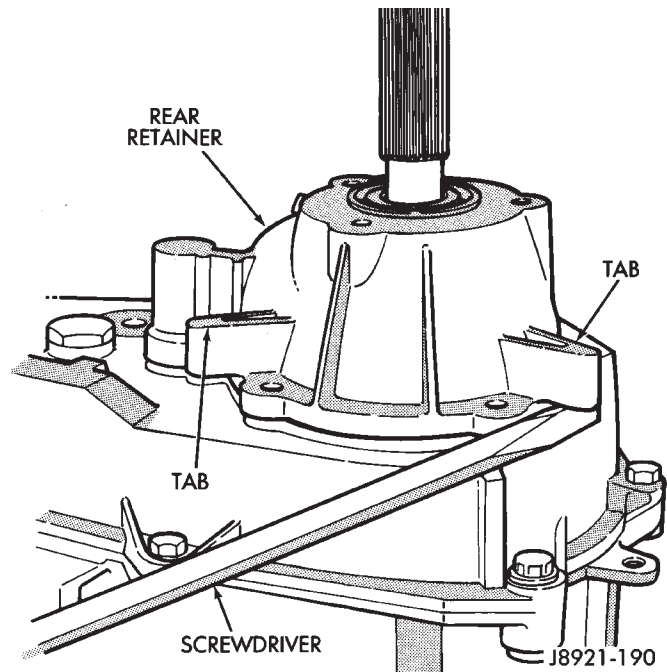

Fig. 8 Loosening Rear Retainer
- (7) Remove rear retainer attaching bolts.
- (8) Loosen rear retainer (Fig. 8). Position long screwdriver under each tab at ends of retainer housing and pry retainer upward.